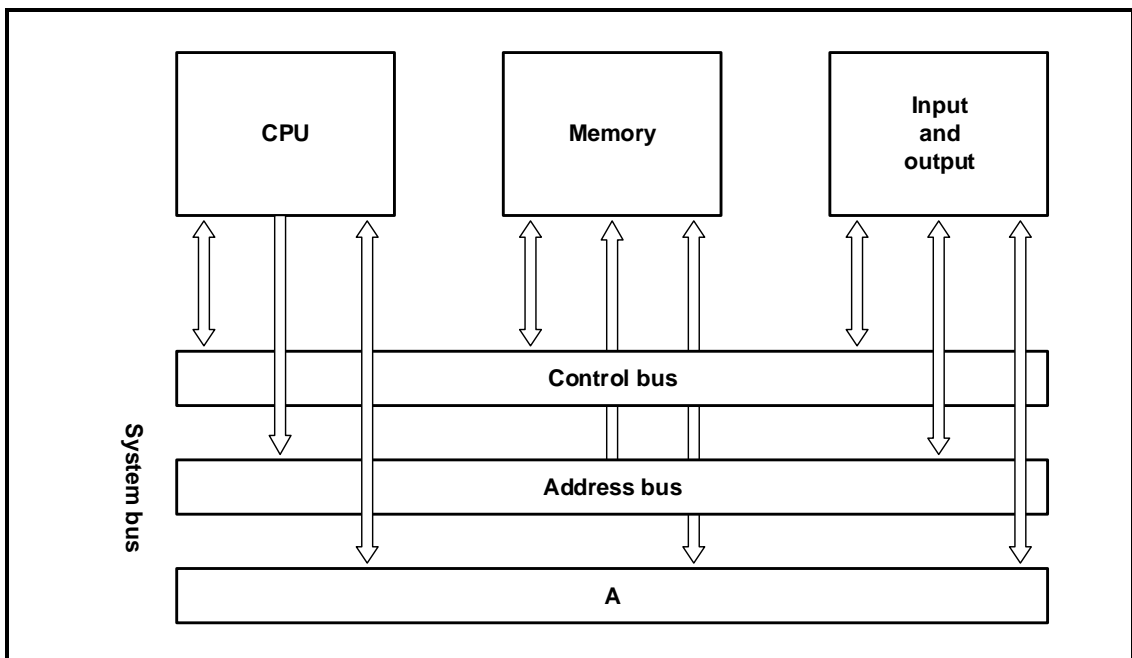

FIGURE 5.6: COMMUNICATION BUSES OF A MICROCONTROLLER
5.6 Refer to FIGURE 5.6 below and answer the questions that follow.